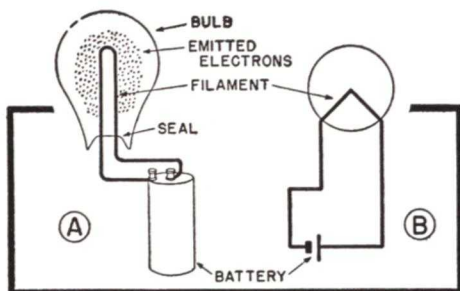

FIG. 1. When the filament is heated, electrons are emitted. Notice the symbols at B for the tube filament and for the battery.
Suppose we start with a tube consisting of a filament, made of thin resistance wire, enclosed in a glass or metal bulb from which all the air has been pumped. If we connect a battery to this filament (Fig. 1), the current
► It is important to realize that the current from the battery in Fig. 1 just heats the filament. The electrons emitted by the filament do not come from this battery current—they come from the atoms of the filament wire itself. We could heat the filament by a gas flame, or any other heating agent, and get the same electron emission for the same amount of heat. An electric current is generally used to heat the filament because this is the most convenient way to do it.